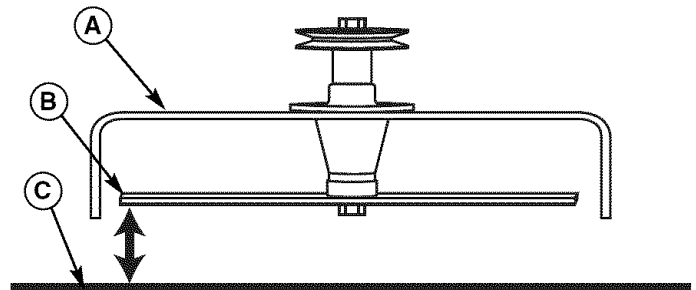
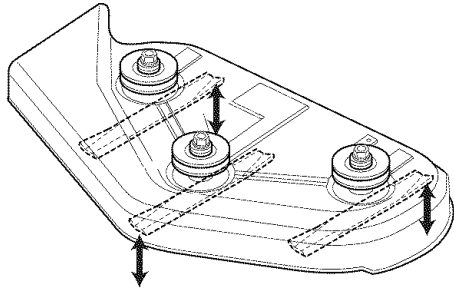

Figure 33. Measure Blade Tips to Ground
Figure 36. Orient Blades Front-to-Back
4. Set the cutting height to mid position. Arrange the mower blades so that they are pointing from side-to-side (Figure 33).
5. Measure the distance between the tips of the outside blades and the ground (Figures 33 & 34). If there is more than 1/8" (3mm) difference between the measurements on each side, proceed to step 6. If the difference is 1/8" (3mm) or less, proceed to Front To Back Leveling.
1. Turn the blades front-to-back as shown in Figure 36. Measure the distance from the ground to front tip of center blade, and from ground to rear tips of left hand and right hand blades (Figures 33 & 36). Front tips should be 1/8"-1/4" (3-6 mm) higher than rear tips. If not, proceed to step 2.